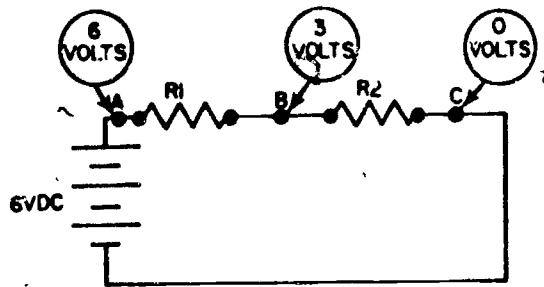

Figure 3.
6. The voltage potential at point B in figure 3 below is _____ volts.